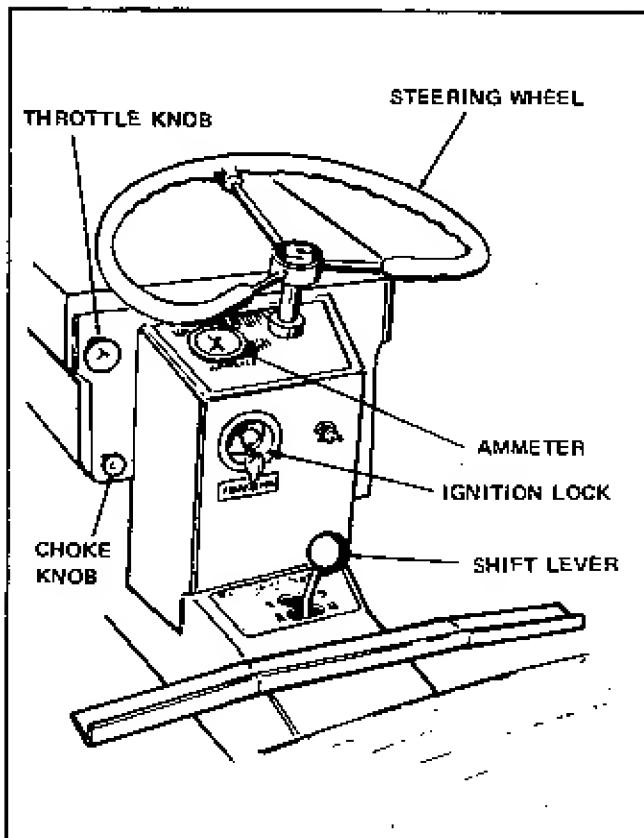
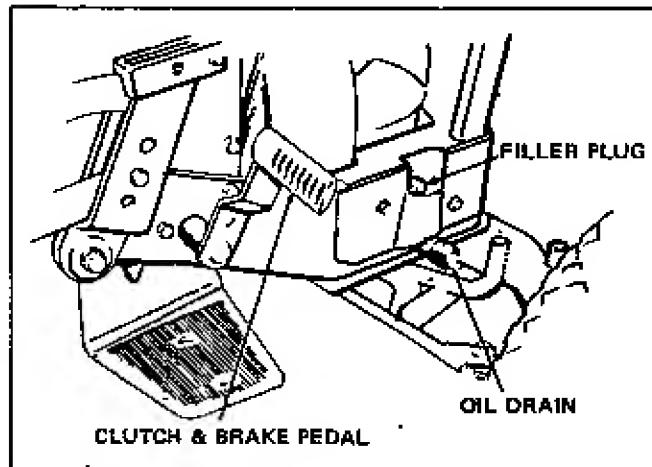

Figure 9
Figure 11
Service air cleaner and crankcase as recommended in Engine Service Manual. Be sure air cleaner is maintained in clean condition. Never use oil in crankcase for more than 25 hours of operation. See Figure 11. CLEAN AIR AND CLEAN ENGINE OIL WILL GIVE LONG TROUBLE FREE OPERATION. DIRT WILL RUIN YOUR ENGINE IN A SHORT TIME. A funnel and extension are included with the tractor for use in changing oil.
1. Place gear shift lever in neutral position. See Figure 9. (Be sure tractor is on level ground and will not roll away in neutral. Apply parking brake).
2. Pull choke knob out. See Figures 9 & 10.
3. Set throttle lever in mid position and turn ignition key clockwise to start engine and release. See Figure 9. As engine warms up, push choke knob in. Pull throttle knob out to desired position and turn to lock.
To place gear shift in desired gear range, depress the combination brake and clutch pedal located on right hand side of tractor. See Figure 11. When pedal is depressed, move shift lever to desired position (See Figure 9) and gradually release pedal until clutch is engaged. When shifting from one range to another, pause briefly in neutral before completing shift. Set throttle lever to obtain desired speed. See Figure 9.